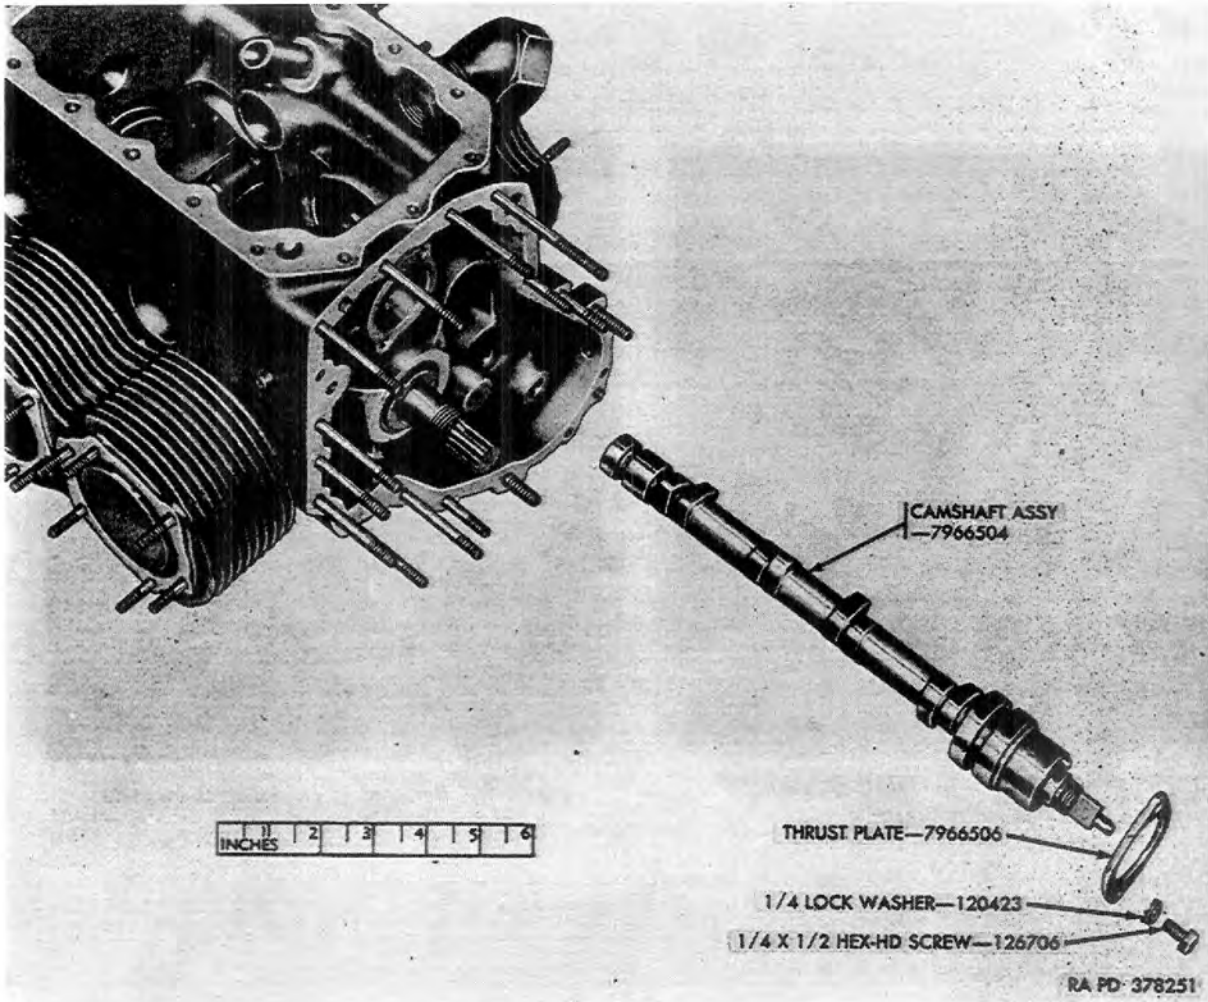

Figure 24. Removal of camshaft.
49. Removal of Camshaft (fig. 24)